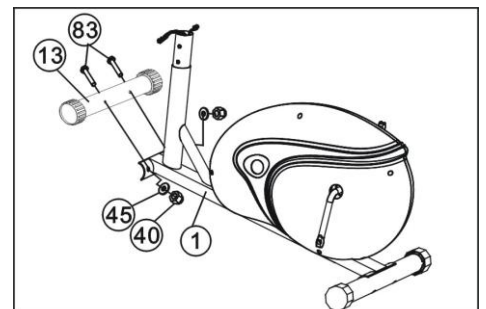

Figure 2
Attach the Front stabilizer (13) to the Main Frame (1) with two M8X55 Bolts (83), φ8 Arc washers (45), and Cap nut (40). (Refer figure 2)